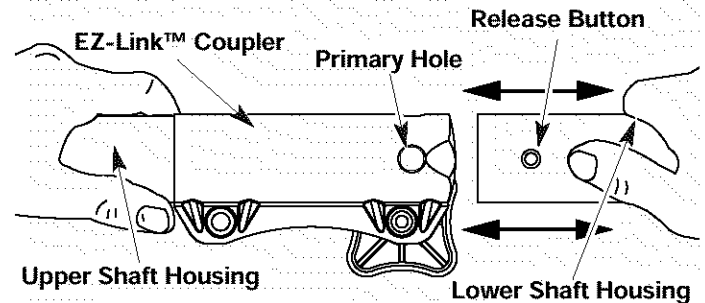

Fig. 11
2. While firmly holding the add-on, push it straight into the EZ-Link™ coupler (Fig. 11).
NOTE: Aligning the release button with the guide recess will help installation (Fig. 11).